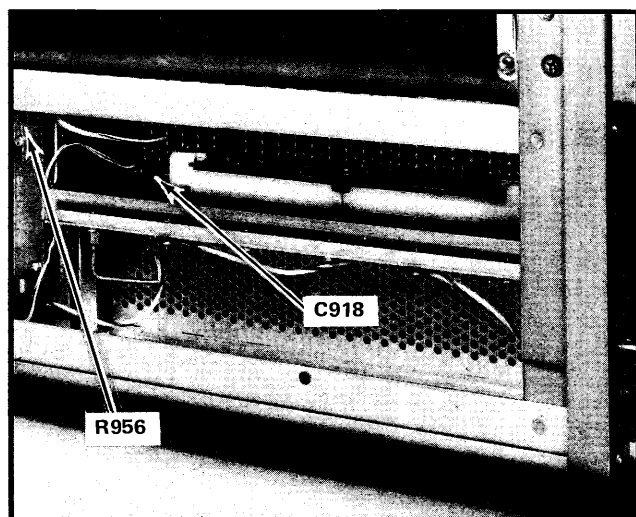

Fig. 4-1. Side panels removed to show the location of C918 and the Calibrator output adjustment R956.
b. Connect a voltmeter between chassis ground and the feedthrough capacitor C918 (see Fig. 4-1).
d. The calibrator output level can be adjusted by removing the 7K11 and oscilloscope left side panels to gain access to the 7K11 calibrator. Adjust R956 (Fig. 4-1) for an output level of +30 dBmV (31.6 mV RMS).